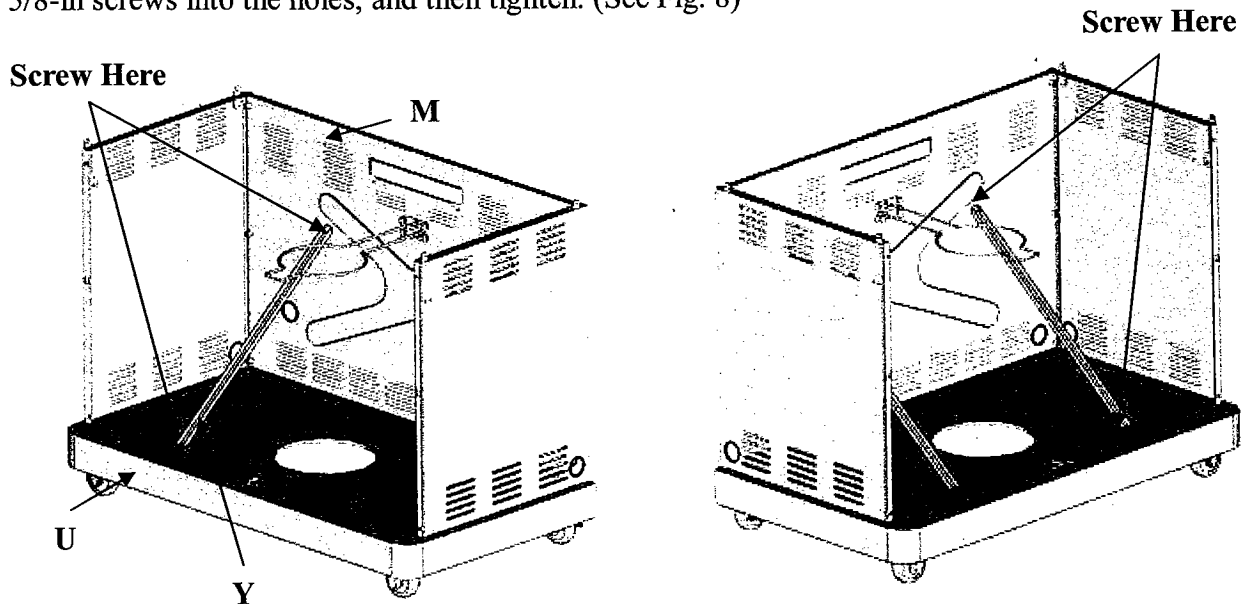

Fig.8
Align the holes in the Tank Stopper (Y) with rear panel (M) and bottom panel (U), insert 1/4-20 x 5/8-in screws into the holes, and then tighten. (See Fig. 8)